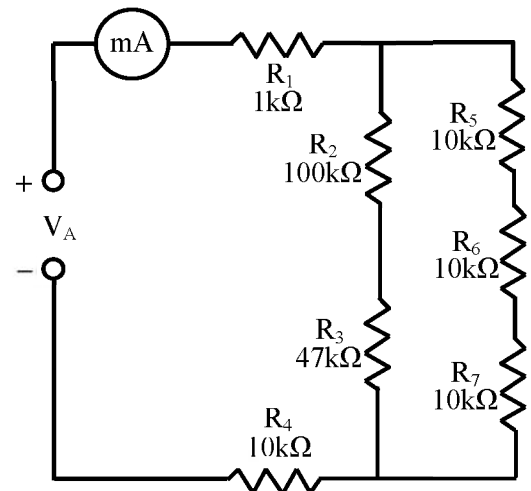

Figure 22-1
1. Connect the circuit as shown in Figure 22-1.